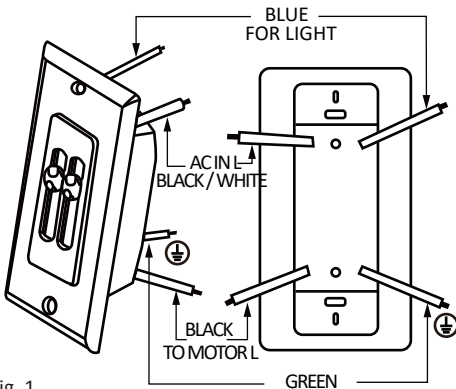

Fig. 1
7. Installation of this control requires that a three-conductor cable with ground wires be run between the control wall box and the ceiling fan outlet box. (Fig. 1)